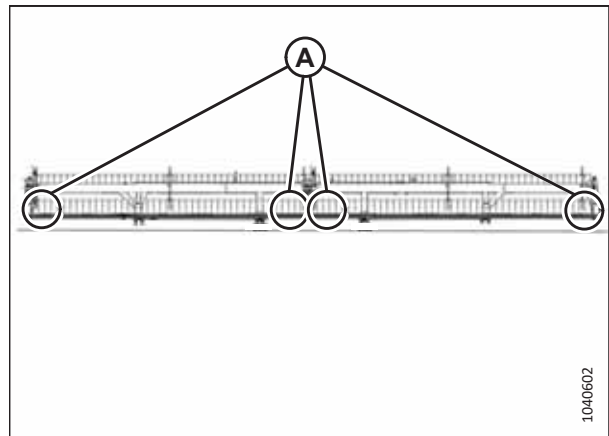

Figure 4.276: Double-Reel Header Measurement Locations
- Figure 4.276, page 406 – double-reel headers